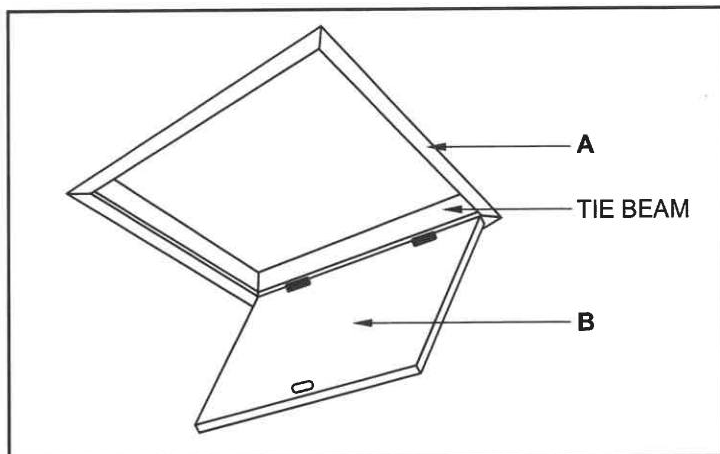

FIGURE 4.6
- 4.6 FIGURE 4.6 below shows a trapdoor.